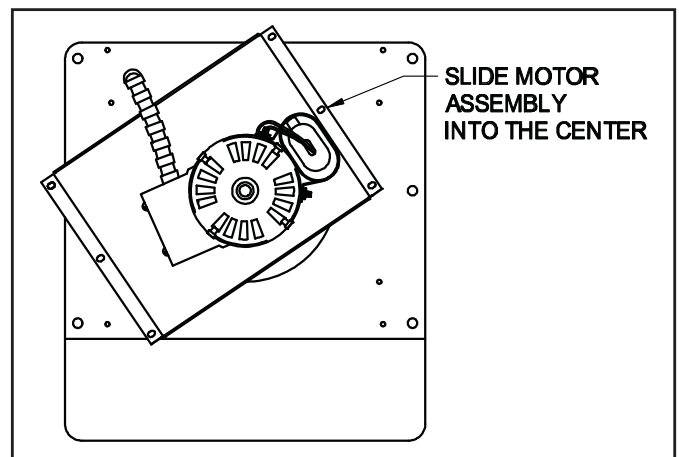

Figure 13
2. Remove the screws securing the motor assembly. Rotate the motor assembly counterclockwise and slide the assembly into the center. Then pull the motor assembly out of the unit. (See Figure 13)